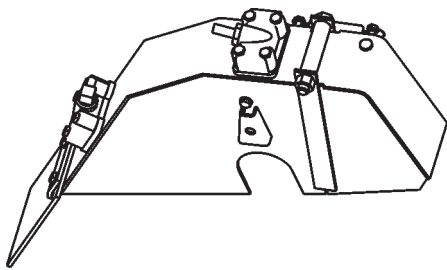

Figure 14. Blade Guard
**NEVER** operate the saw without blade guards and covers (Figures 14, 15 and 16) in place. **DO NOT** operate with the front of the blade guard raised. The blade exposure cannot exceed 180 degrees during operations. Adhere to the safety guidelines of the **American National Standards Institute (ANSI) B7.1 and B7.5.**